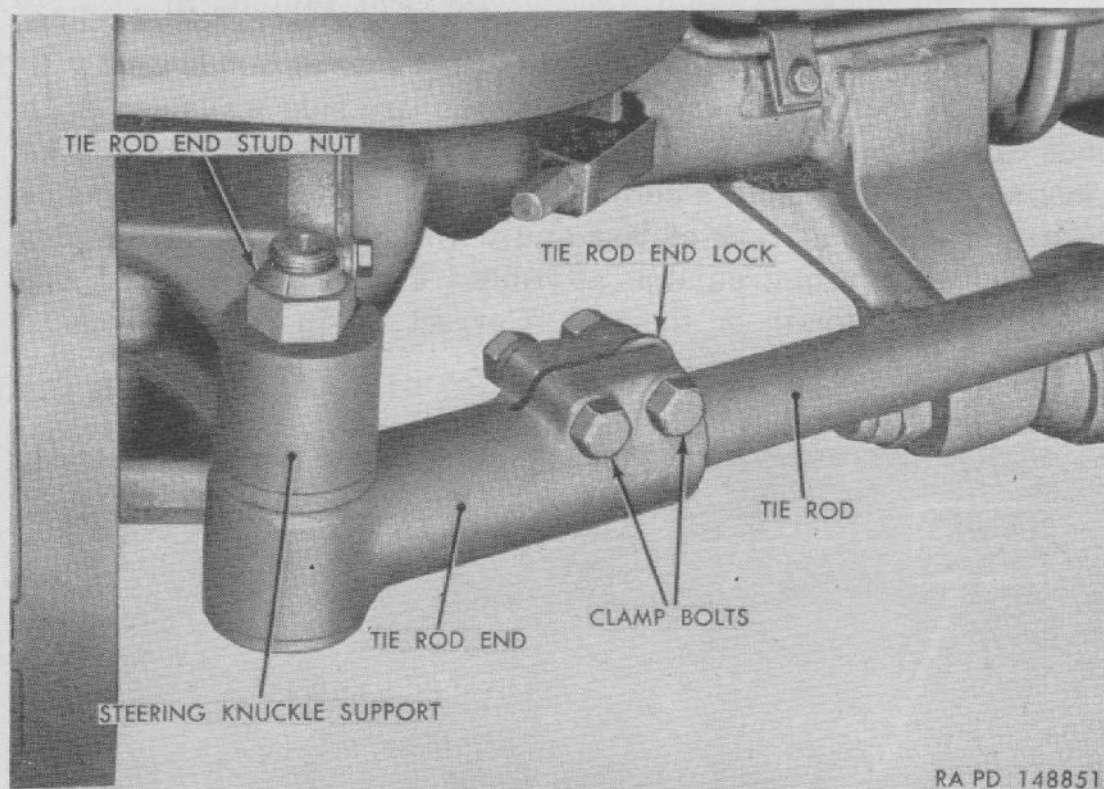

Figure 114. Tie rod installed.
(1) *Remove tie rod* (fig. 114). Position vehicle with wheels in straight-ahead position and remove tie rod (par. 197b).